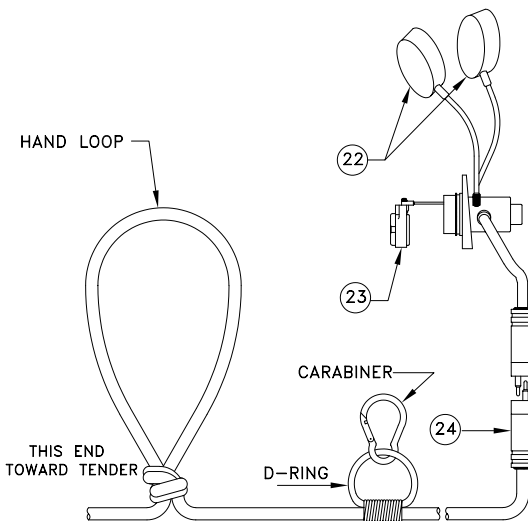

Figure 4.1
21.	EMA-2 ear/mic. assembly for AGA See Figure 4.1, Page 8
- 4.2.4. Strain-relieve the Com-Rope® in two places on the diver's end. The first point should have some sort of "D-ring" heavily taped or tied about 4 feet from the Hi-Use® connector. This "D-ring" will be clipped onto the diver's harness or buoyancy compensator via a carabiner or some good quality, quick disconnect. This connection will help prevent the Com-Rope® from pulling on the diver's full-face mask (see Figure 4.1).
- 4.2.5 The diver should tie the Com-Rope®, making a hand loop about 6 inches in diameter about 10 feet from the Hi-Use® connector (Figure 4.1). The diver will now be secured to his harness or buoyancy compensator and have a hand-hold he should hold during the dive. The diver should have control of the Com-Rope® throughout the dive. He should feel what is going on, giving topside directions when slack needs to be taken up or when more rope needs to be paid out. If the diver lets go of the hand-hold, the carabiner–D-ring combination will absorb the tension. In the event the diver must break lose of the Com-Rope® totally (i.e., in an emergency), the diver should let go of the Com-Rope® hand-hold and unsnap the device holding the D-ring. The diver then should let topside know what is going on before he detaches the Hi-Use® connectors. The diver then should proceed directly to the surface and reestablish communications (see notes on page 10).